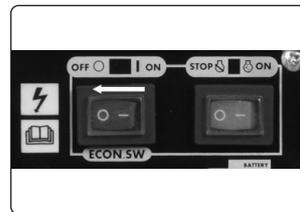

fig.11
- 6.4.2. Turn the ECS to "OFF" fig.11.